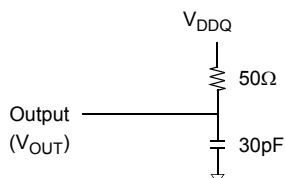

Figure 1 : Timing Reference Load
- Figure 1 represents the timing reference load used in defining the relevant timing parameters of the part. It is not intended to be either a precise representation of the typical system environment nor a depiction of the actual load presented by a production tester. System designers will use IBIS or other simulation tools to correlate the timing reference load to a system environment. Manufacturers will correlate to their production test conditions (generally a coaxial transmission line terminated at the tester electronics).